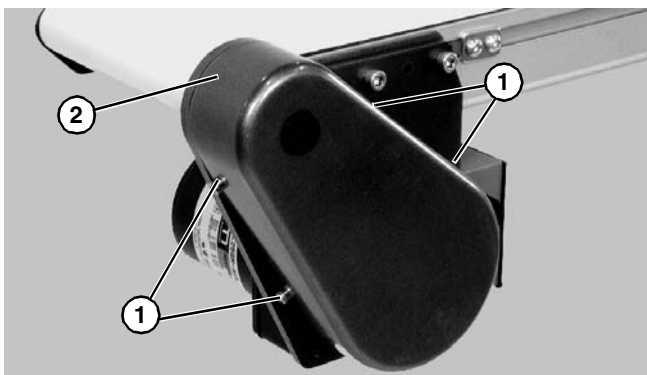

Figure 17
1. Remove four (4) screws (Figure 17, item 1) and remove cover (Figure 17, item 2).
4. Install cover (Figure 17, item 2) with four (4) screws (Figure 17, item 1). Tighten screws to 35 in-lb (4 Nm).
6. Install cover (**Figure 17, item 2**) with four screws (**Figure 17, item 1**). Tighten screws to 35 in-lb (4 Nm).